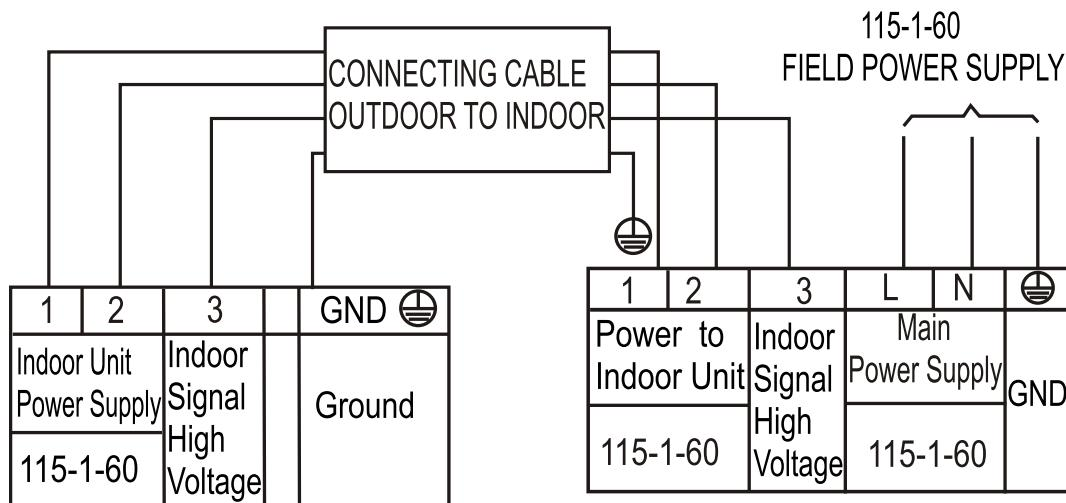

Fig. 10 — Connection Diagram Sizes 9K-12K (115V)
2. All connections between the indoor and outdoor units must be made as shown in Figures 10 - 11. The connections are sensitive to polarity and will result in a fault code.